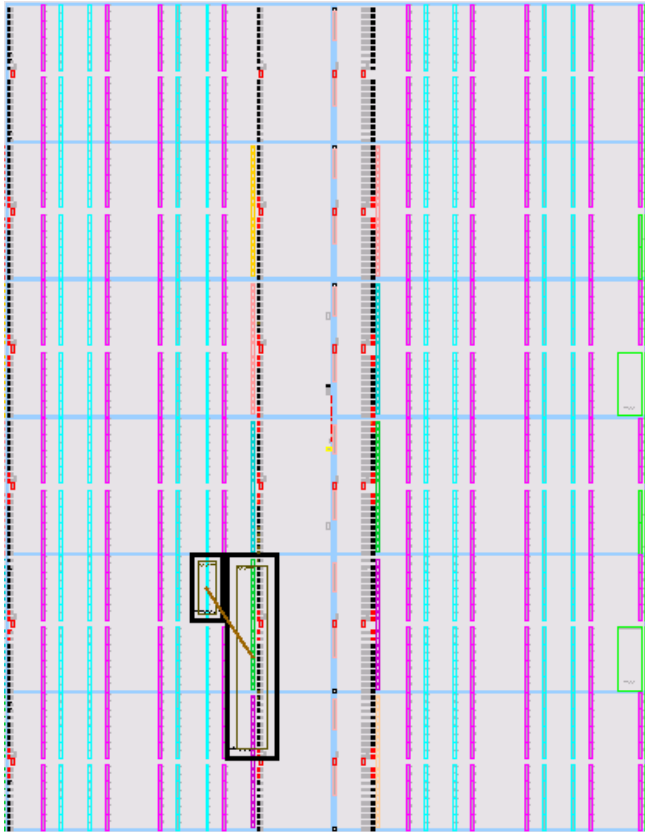

Figure 14: Final AG Ranges
6-2-4. The resulting floorplan should look similar to the image in Figure 14.
- 6-2-5.** Verify the pins required for U2_RP_Count are within the AG Range. The pins AD21, AH27, AE21 and AH28 must be included in the rectangle of the AG Range for U2_RP_Count as shown in Figure 14. Also note that the rectangle extends to the right of the IO column. This is critical as there are I/O routing resources on the right side of this IO column that must be included in the AG Range or the router will fail implementation. This is because all RM routing resources must be within the RP region as defined by the AG Range.